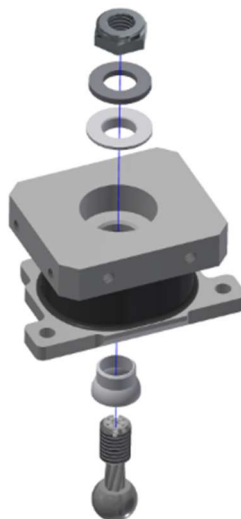

Figure 6-41. upper thoracic spine flex joint hardware
- 6.3.11 Insert the Upper Spine Cable (474-3224) through the Upper Neck Bushing (180-2004) and the Upper Spine (474-3241). Install a Cable Bushing and M12 Flat Washer over the threaded portion of the cable (Figure 6-41).